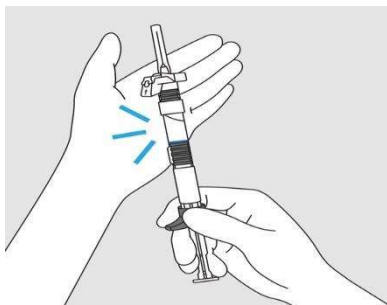

Figure 9: Tap syringe against palm to mix
10. Gently tap the syringe against the palm of your hand to mix the powder and diluent until it forms a uniform suspension. When properly mixed, the suspension should appear milky with no visible lumps. (Figure 9)